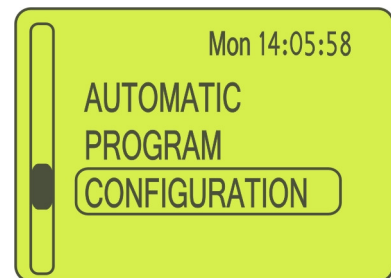

Figure 1
- When an item is highlighted, the knob pressure has the meaning of performing the function described by the same voice (for example if START is highlighted, when the knob is pushed, the motor starts; if CONFIGURATION is highlighted (Figure 1) and pushed, you enter in the configuration sub menu).